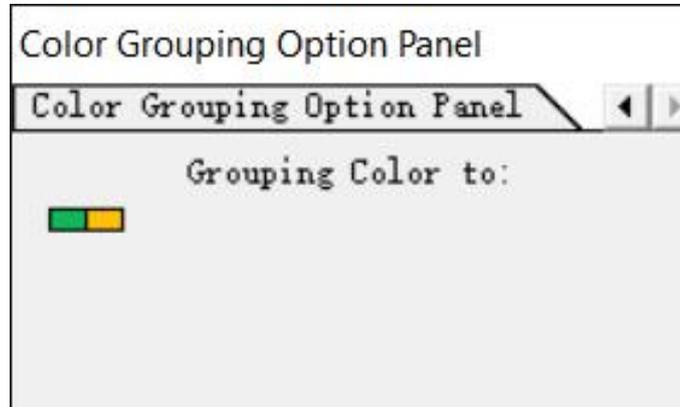

Figure 4-94
3. Move the cursor to the drawing area, left-click on the color to be selected one by one to select the color. Each time you click to select a color, the color will also be displayed in the Color Grouping Option Panel (Figure 4-94).